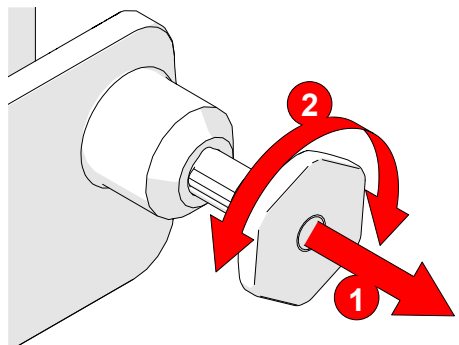

Fig. 235 - Pull latch pin and rotate
5. Pull the latch pin and slightly rotate the latch pin left or right (Fig. 235).